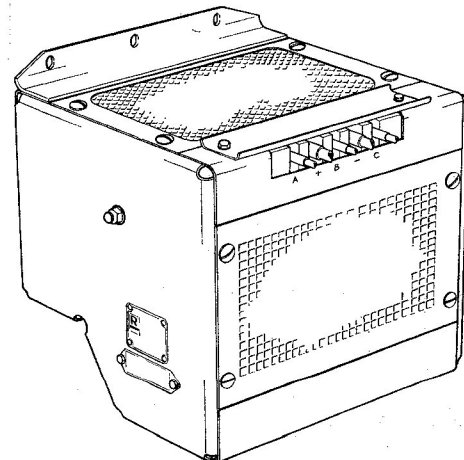
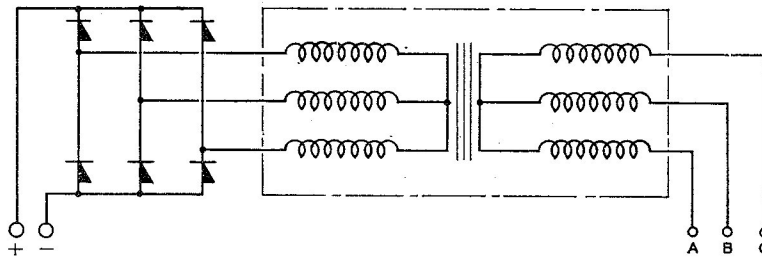

Fig. 1. Transformer rectifier unit, Type U5501
Fig. 2. Diagram of internal connections
2. The U5501 unit (fig. 1) consists of a three-phase, star—star connected transformer (P12901) and six (handed) diodes interconnected as shown in fig. 2 to form a three-phase full wave bridge.